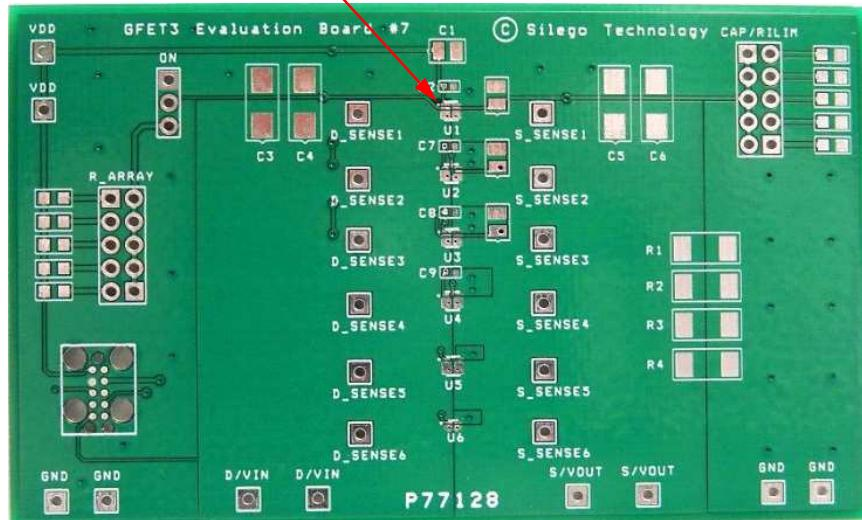

Figure 1. SLG59M1563V Evaluation Board.
2. Since the D and S pins dissipate most of the heat generated during high-load current operation, it is highly recommended to make power traces as short, direct, and wide as possible. A good practice is to make power traces with absolute minimum widths of 15 mils (0.381 mm) per Ampere. A representative layout, shown in Figure 1, illustrates proper techniques for heat to transfer as efficiently as possible out of the device;
A GreenFET Evaluation Board for SLG59M1563V is designed according to the statements above and is illustrated on Figure 1. Please note that evaluation board has D_Sense and S_Sense pads. They cannot carry high currents and dedicated only for RDS_{ON} evaluation.